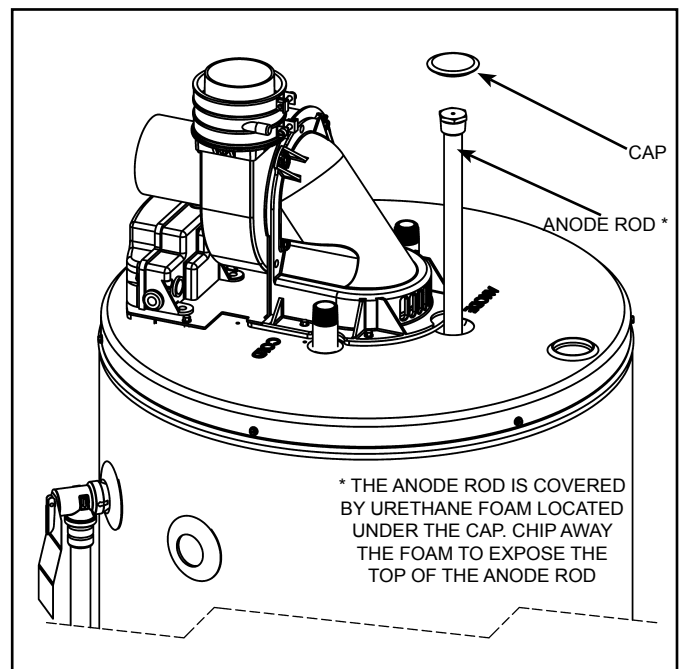

Figure 4
6. Remove and retain the anode cap on top of the heater and remove and retain just enough insulation so you can access to the anode head (see Figure 4). Keep in a safe place for reinstallation later.
7. Remove the anode rod by using a ratchet and a 1-1/16" socket turning counter-clockwise (see Figure 4).